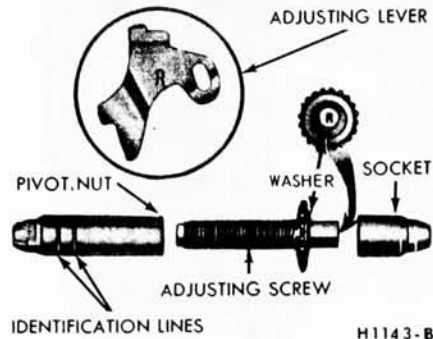

FIG. 14—Adjusting Screw and Lever Identification
ing mechanism operated. To prevent installation on the wrong side of the car, the socket end of the adjusting screw is stamped with an R or L (Fig. 14). The adjusting pivot nuts can be distinguished by the number of grooves machined around the body of the nut. Two grooves on the nut indicate a right thread, one groove indicates a left thread.
11. Hook the cable hook into the hole in the adjusting lever. The adjusting levers are stamped with an R or L to indicate their installation on a right or left brake assembly (Fig. 14).